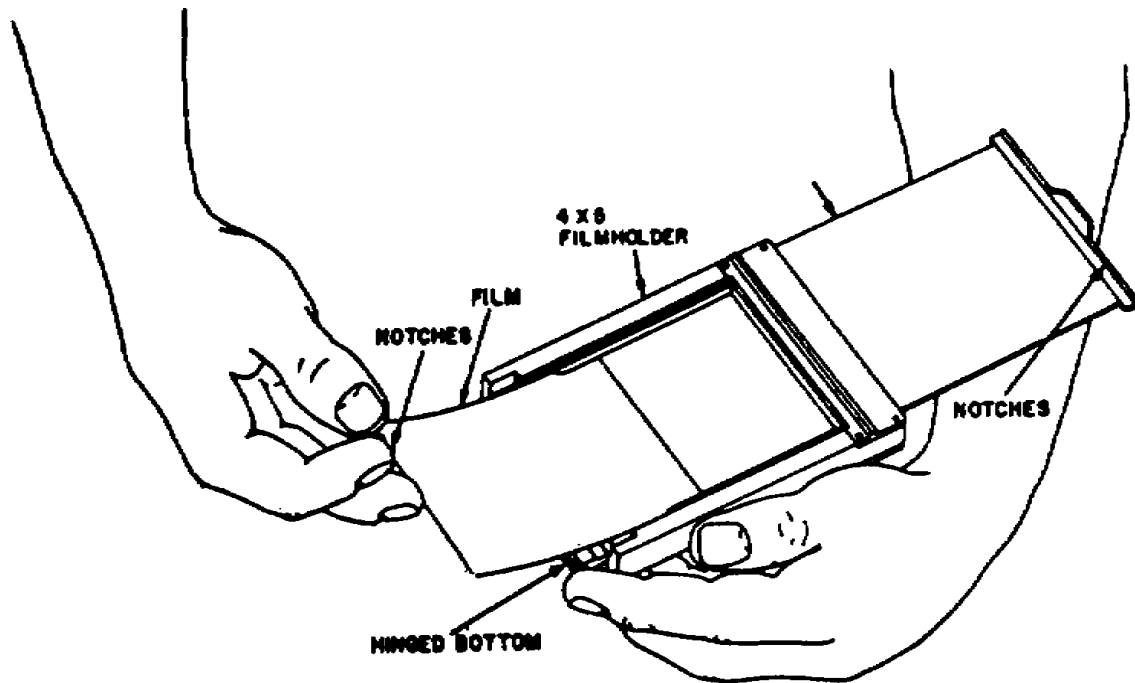

FIGURE 8. Loading 4" x 5" filmholder.
a. Loading the 4" x 5" filmholders (figure 8). The following procedures apply to each of the 4" x 5" filmholders.